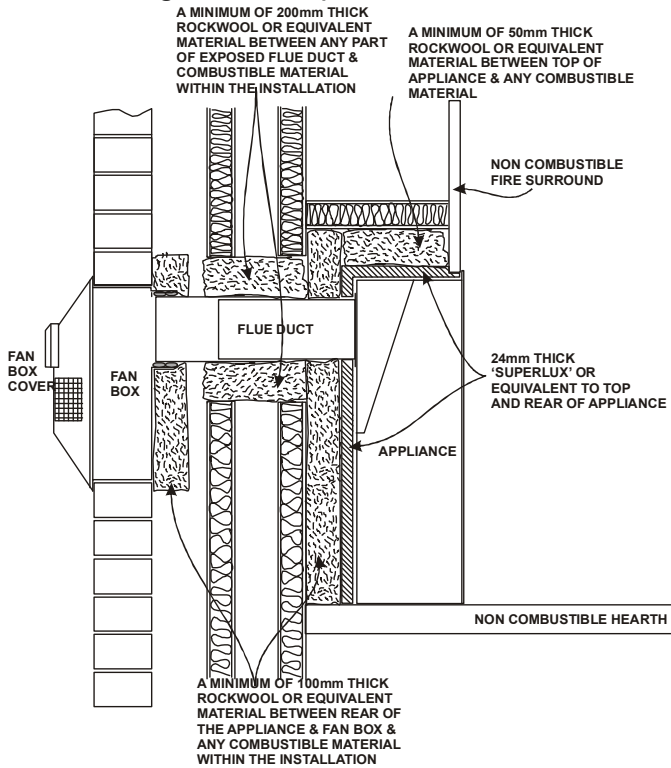
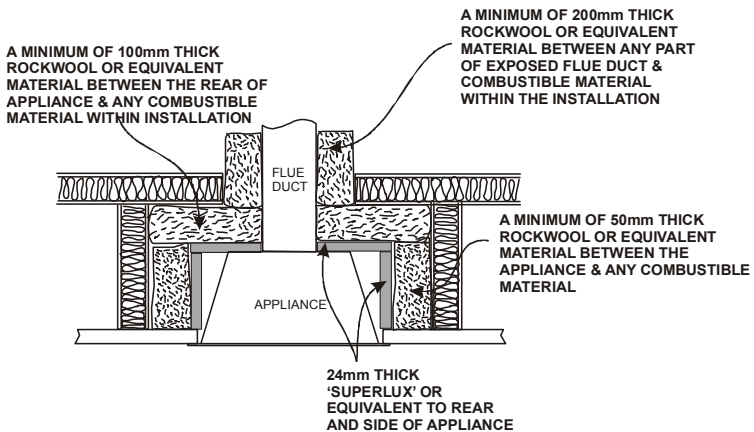

Figure 41 – Side View
Figure 42 – Top View
7. Ensure that any cavity wall insulation or other combustible materials within the installation are removed and replaced with rockwool or equivalent material to the dimensions and depths as detailed in **Figure 41** and **Figure 42**.
6. Ensure that any cavity wall insulation or other combustible materials within the installation are removed and replaced with rockwool or equivalent material to the dimensions and depths as detailed in **Figure 41** and **Figure 42**.
7. The false chimney breast / fire surround, if made of combustible materials shall be suitably protected with 24mm thick 'Superlux' or equivalent material and the correct thickness of rockwool or equivalent material as detailed in **Figure 41** and **Figure 42**.